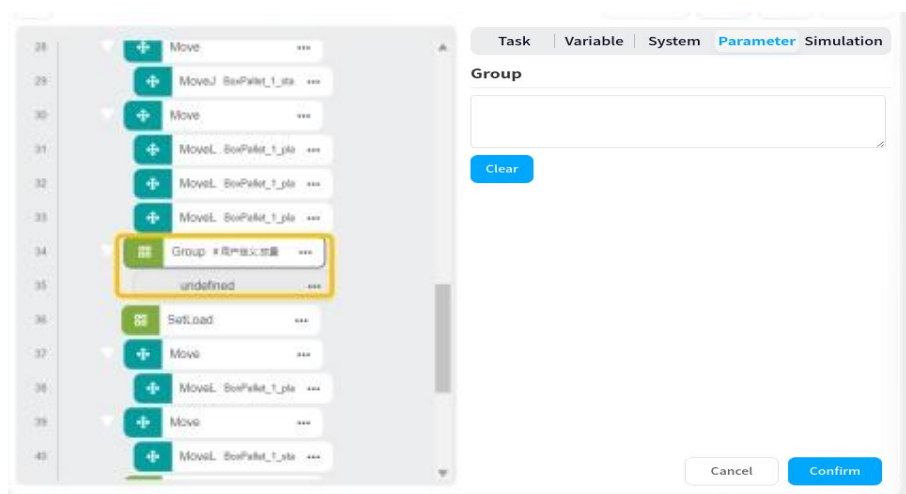

Figure 42
5、 Set the “Group Custom placement” module, as shown in Figure 42.